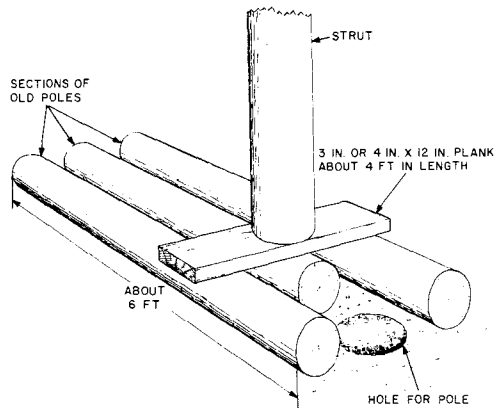

Fig. 14—Strut Support
4.04 Where marshy or very wet ground conditions are encountered, provide a foundation for the supporting strut. Sections of old poles laid parallel to and under the fixture (Fig. 14) can be used for this purpose. The lower plank, on which the supporting strut is placed should be long enough to be in contact with all the poles forming the foundation. The strut should be placed directly over one of the poles.